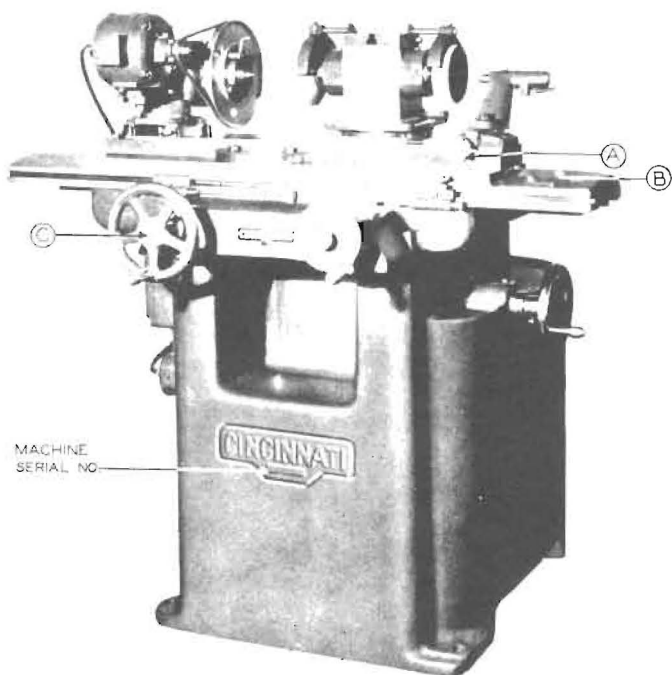

FIG 7 FRONT VIEW
2. Disengage lever "A" (see Fig. 7), swivel the table and lift off.